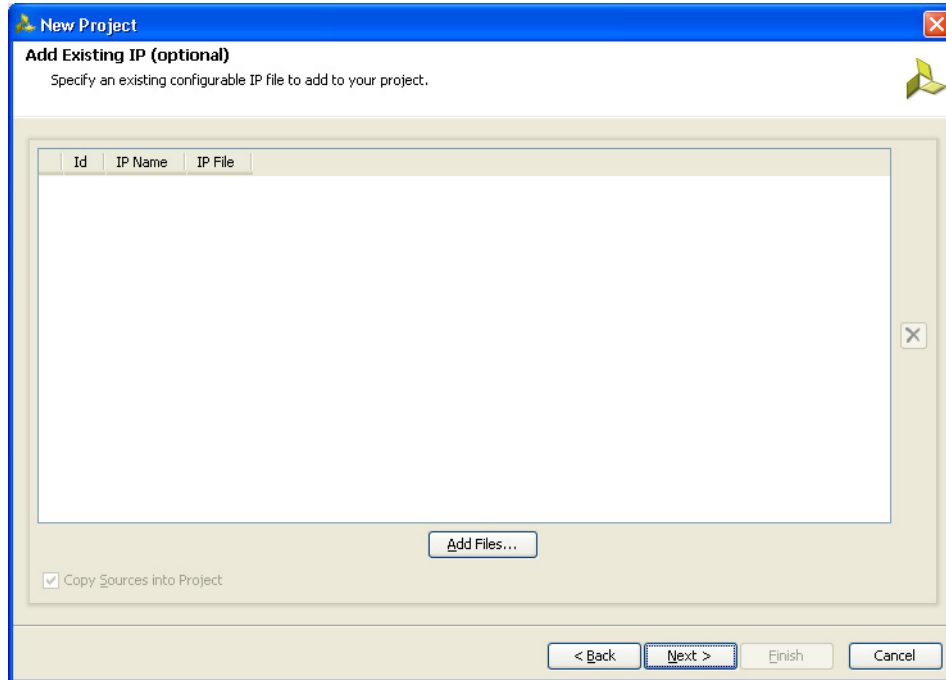

Figure 5-6: Add Existing IP (Optional)
6. Click **Next** to open the Add Existing IP (Optional) page (Figure 5-6). If the IP is already created, the XCI file generated by the IP can be added to the project and the previous created IP files are automatically added to the project. If the IP was not created earlier, proceed to the next page.